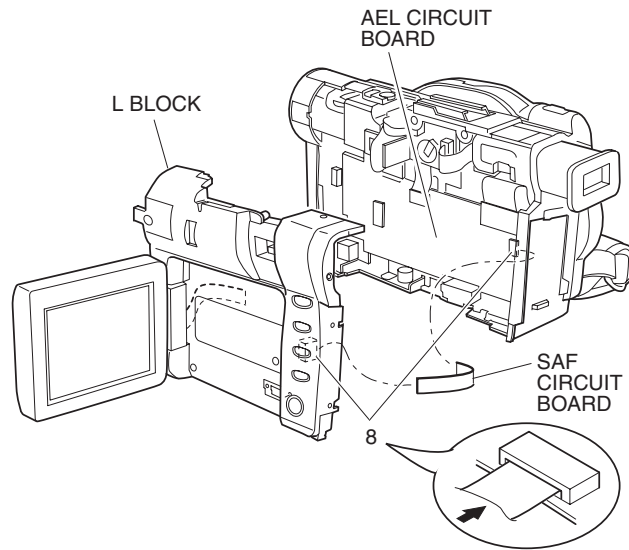

Fig. 4-7-7 Setting to Service Position (C)
- 8) Connect the L block and AEL circuit board via SAF circuit board. (Fig. 4-7-7)